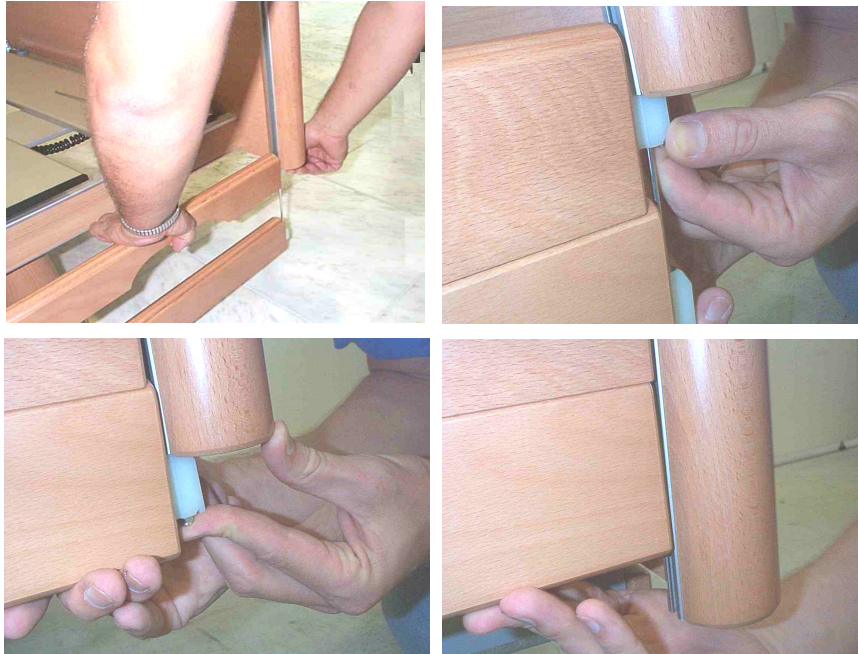

Figure 36
- Push the plastic tongues on the safety frames from below into the slides let into the head- and footboards (see Figure 36). A spring-loaded bolt in the lower end of the slide stops the safety frames from falling out so that first the one end, then the other, can be pushed in.